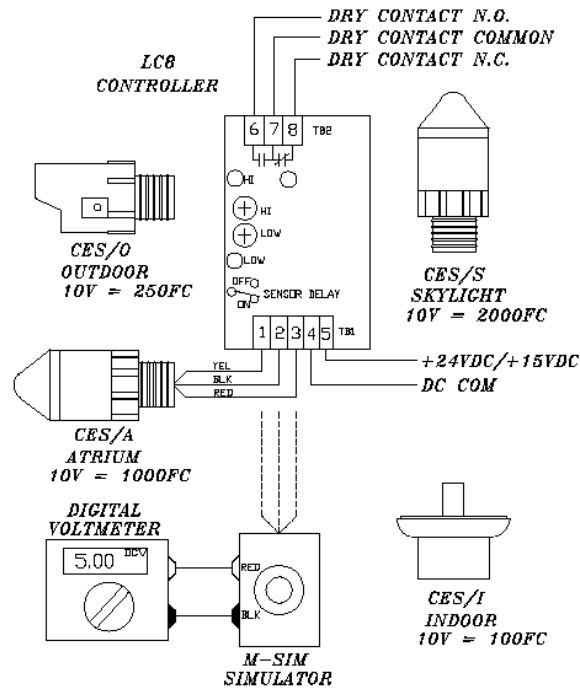

Figure 1: LC8 w/CES Sensor and M-Simulator
The LC8 +24VDC (+15VDC) power should be connected to Terminal 5 at the bottom of the controller board; DC Common should be connected to Terminal 4 (see Figure 1).
The LC8 Form C output has Common connected to Terminal 7 (LOAD RATING 3A MAX), the Normally Open contact is connected to Terminal 6, and the Normally Closed contact is connected to Terminal 8 (see Figure 1).
CES sensor has three (3) wires. The Yellow wire should be connected to Terminal 1 at the bottom of the controller board. The Black wire should be connected to Terminal 2 and the Red wire should be connected to Terminal 3 (see Figure 1).
The M-Series simulator connections are the same as the CES sensor; remove the sensor if connected and attach the Yellow wire from the simulator to Terminal 1 at the bottom of the controller board. The Black wire should be connected to Terminal 2 and the Red wire should be connected to Terminal 3 (see Figure 1).
1. Switch the Input Delay Switch OFF (UP).
2. Plug the DVM into the Simulator and attach the Simulator to the LC8 in place of the Sensor (see Figure 1).
8. Unplug the Simulator from the LC8 and rewire the Sensor in its place (see Figure 1).